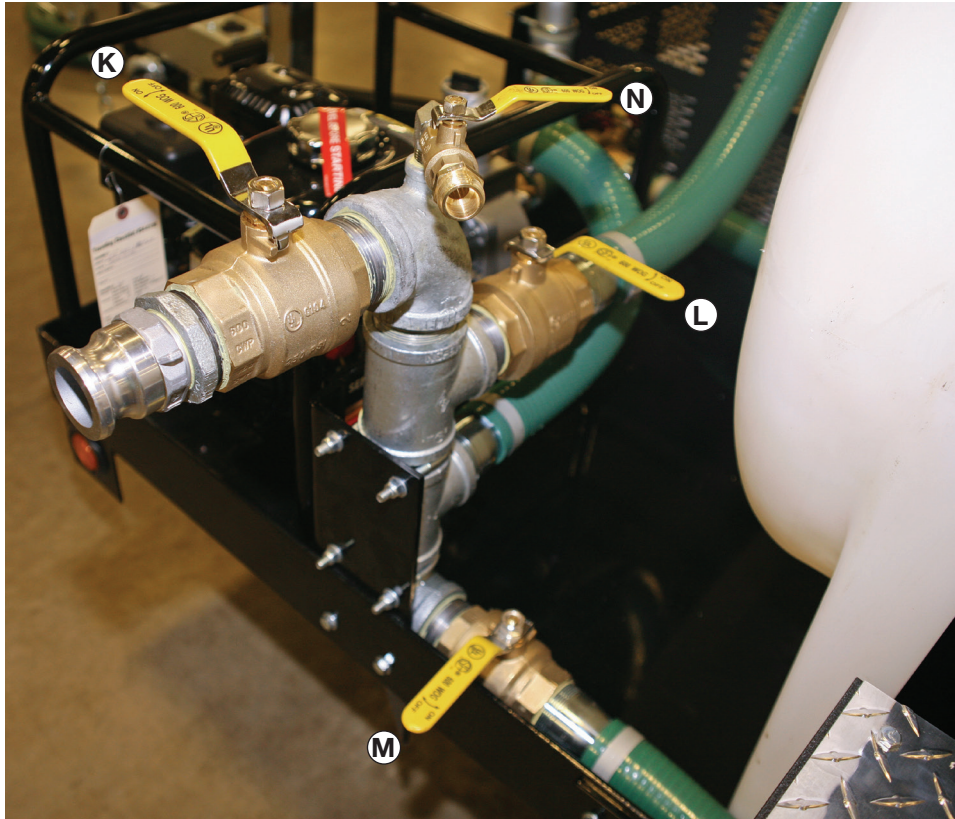
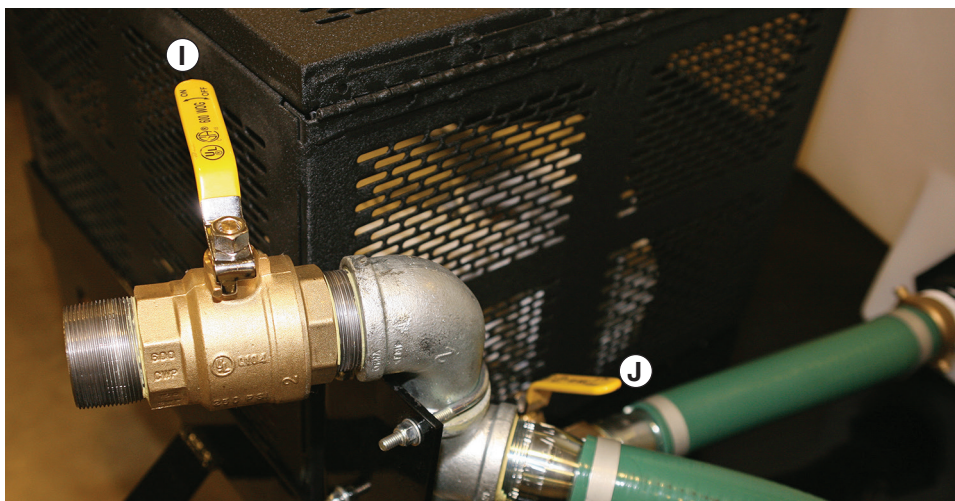

Figure 8
Figure 9
The Hard Suction Option for the Mi-T-M Water Trailer features an easy to use discharge Manifold that allows for four methods of controlling water flow (figure 8), and an easy to use inlet manifold allowing for two methods of supplying water (figure 9). Water can be discharged through the spray nozzle bar valve (M), fire hose valve (K), garden hose valve (N), or the tank valve (L). Water can be supplied by the tank valve (J) or from an external body of water using valve (I).